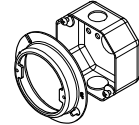

FIG 2.1 Junction Box Type-Optional
- STEP 1** Verify suitable mounting location, junction box and blocking requirements - **FIG 2.1**.